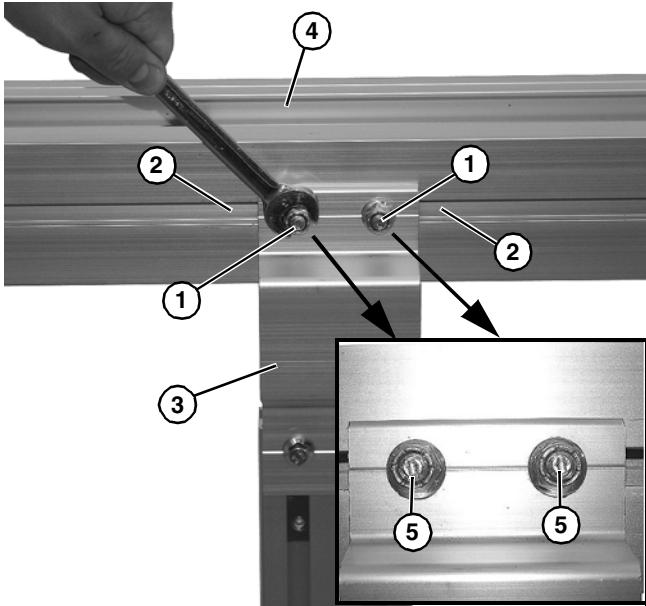

Figure 4
1. Insert studs (**Figure 4, item 1**) into conveyor side slots (**Figure 4, item 2**).
2. Install support post mounting bracket (**Figure 4, item 3**) onto two studs (**Figure 4, item 1**) installed on conveyor frame (**Figure 4, item 4**) with two nuts.
*Be certain that slot (**Figure 4, item 5**) is close to vertical when finished tightening nut.*